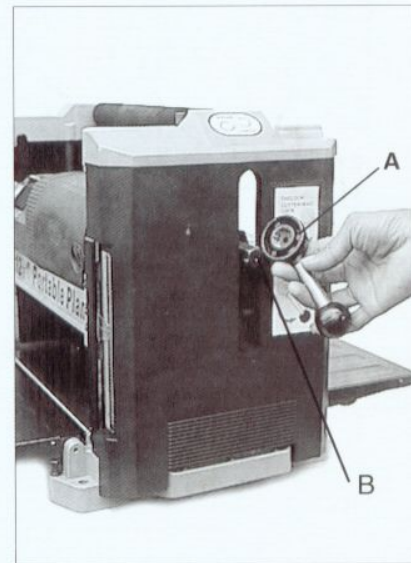

Fig.5
1. Assemble the cutterhead lock handle (A) Fig.5, to shaft (B).